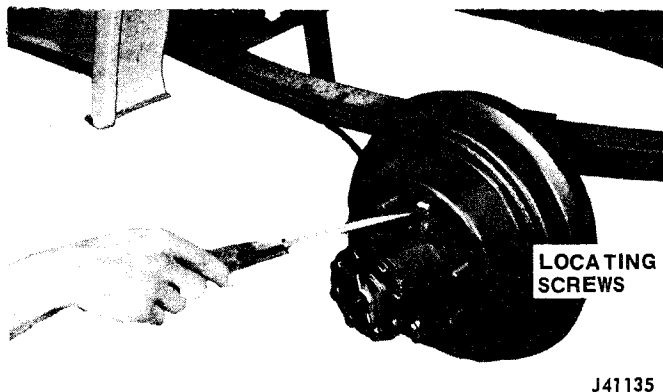

Fig. 2G-25 Brake Drum Locating Screw Removal—Model 60 Axle
- (1) Raise vehicle.
- (2) Remove rear wheels and drums.
- (3) Release parking brake and loosen locknuts at parking brake equalizer to relieve cable tension before removing rear drums.
- (4) On Truck models with Model 60 full-floating rear axle, remove two screws that locate rear drums on hubs (fig. 2G-25).
- (5) Remove primary brakeshoe return spring (fig. 2G-23).